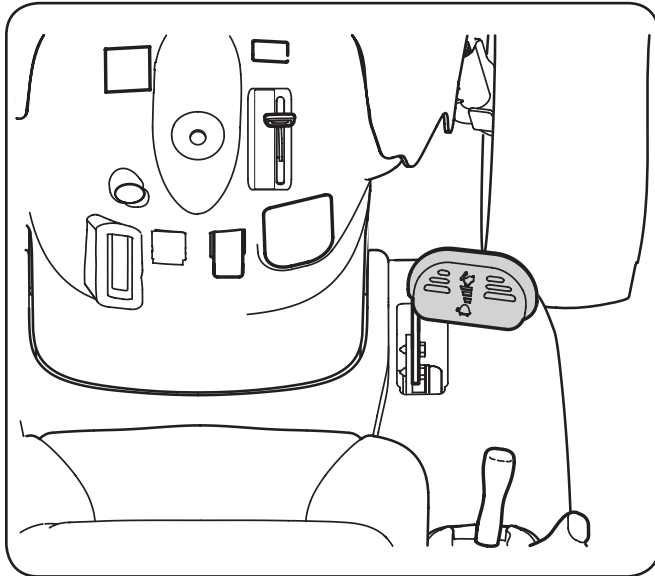

Figure 5-1
2. To travel FORWARD, slowly press the drive pedal forward until the desired speed is achieved. See Fig. 5-1.